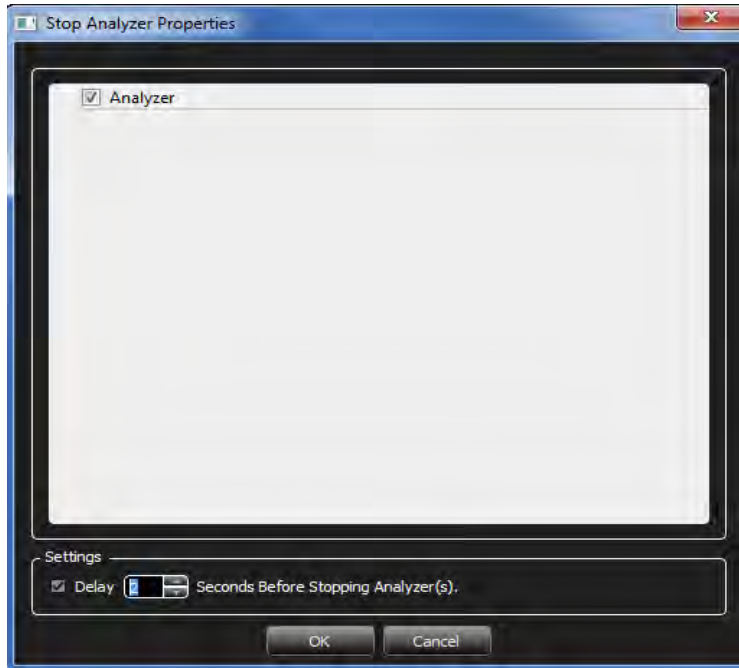

Figure 7.6: Stop Analyzer Properties
1. Drag and drop the **Stop Analyzer** command to display the *Stop Analyzer Properties* window (Figure 7.6).